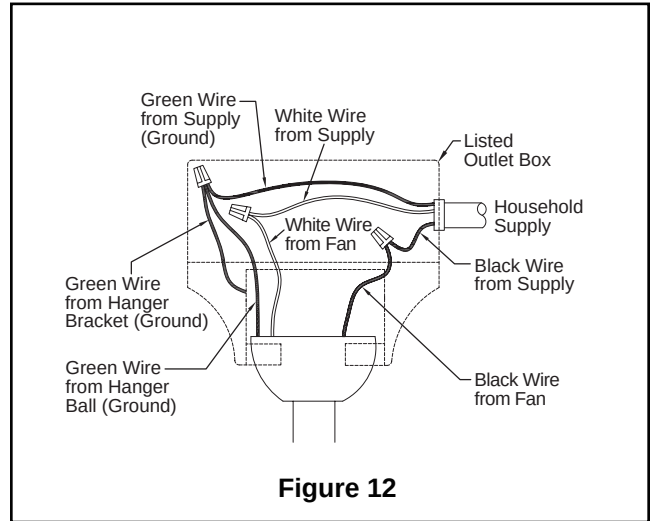

Figure 12
- ☐ 1. Connect the green grounding lead from the downrod/hanger ball assembly and the green grounding lead from the hanger bracket to the supply grounding conductor (this may be a bare wire or wire with green colored insulation). Securely connect wires with wire connectors. Securely connect the white fan motor wire to the white supply (neutral) wire using wire connector. Securely connect the black fan motor wire to the black supply wire using wire connector (Figure 12).